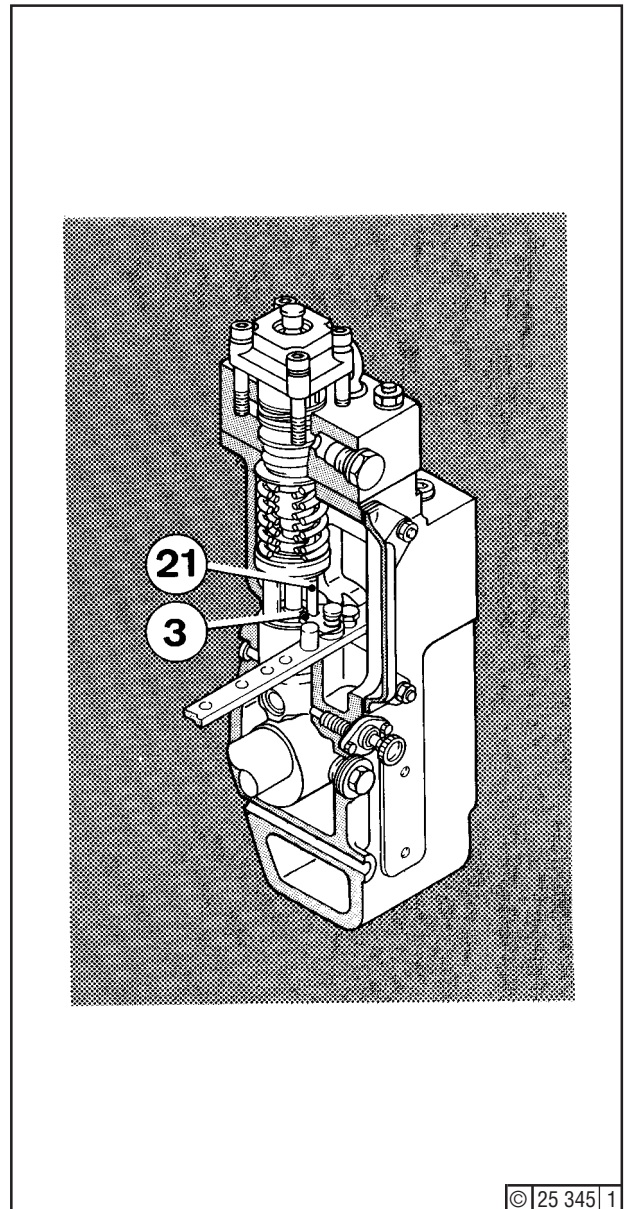

Fig. 3
The installation of the control rod is carried out in the reverse order to removal. Introduce the rod into the pump case, seeing to it that the adjusting pins (21) engage in the forks (3) - Fig. 3).